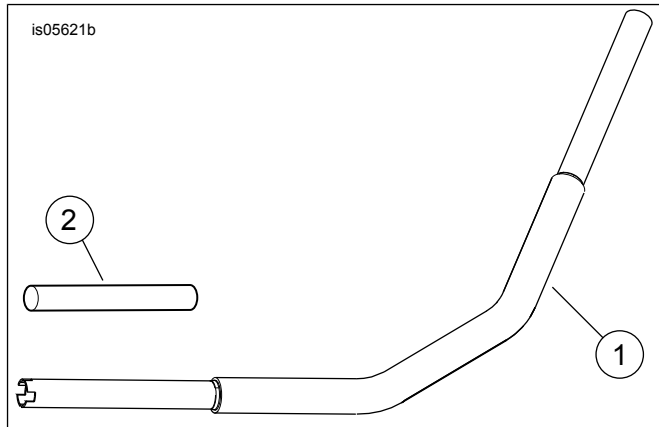

Figure 2. Service Parts: Handlebar Kit
See Figure 2 and Table 1.
***For Non-FXDF Models Only:** See Figure 2. Cut the mesh tubing from the kit into two equal length pieces. Slide the switch wire bundles through mesh conduit. Position conduit into switch control housing. Tie each end of conduit with cable strap from kit.*